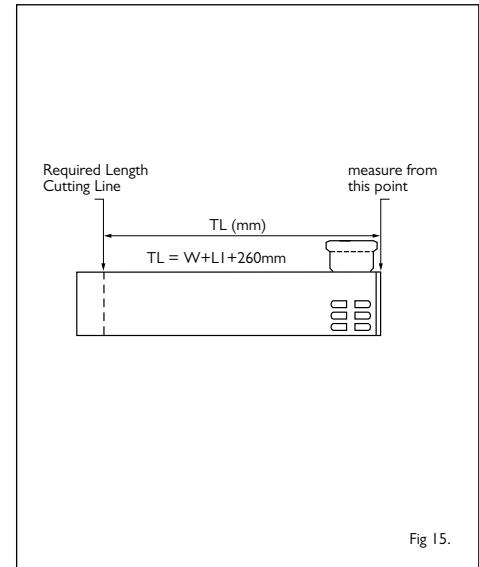

Fig 15.
3. Mark off and cut flue tubes following guidance shown in fig 15 overleaf. Flue tubes should be cut to length TL in mm. Both inner and outer tubes should be cut flush with each other, square and any burrs removed.